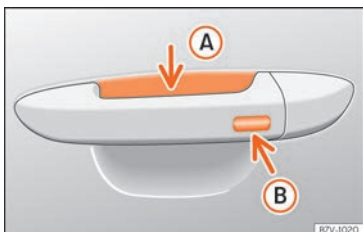

Fig. 52 Driver door lever: sensor surfaces.
»» Fig. 52
- Touch the sensor surface »» Fig. 52 (B) on the outside of the door handle. All turn signals flash once.
- Within 5 seconds, touch the sensor on the outside of the door handle »» Fig. 52 (B) once. Do not grip the handle while doing so. This temporarily deactivates the Keyless Access system.
To close all the electric windows and the sunroof using the **comfort function**, keep a finger for a few seconds on the locking sensor surface »» Fig. 52 ② of the door handle until the windows and roof have closed.